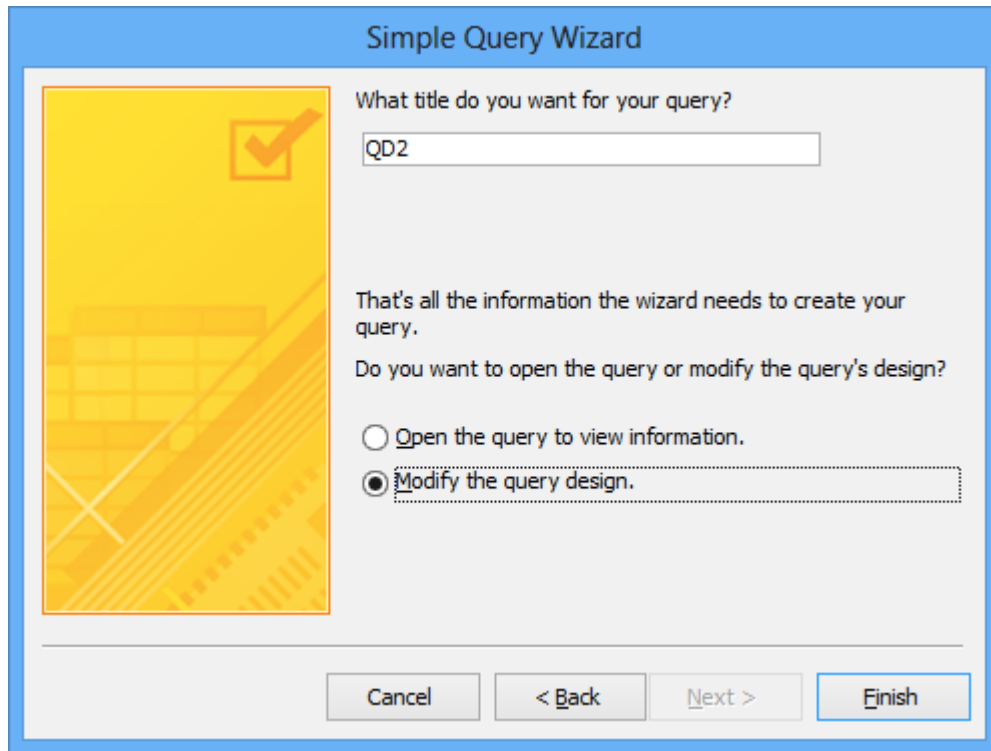
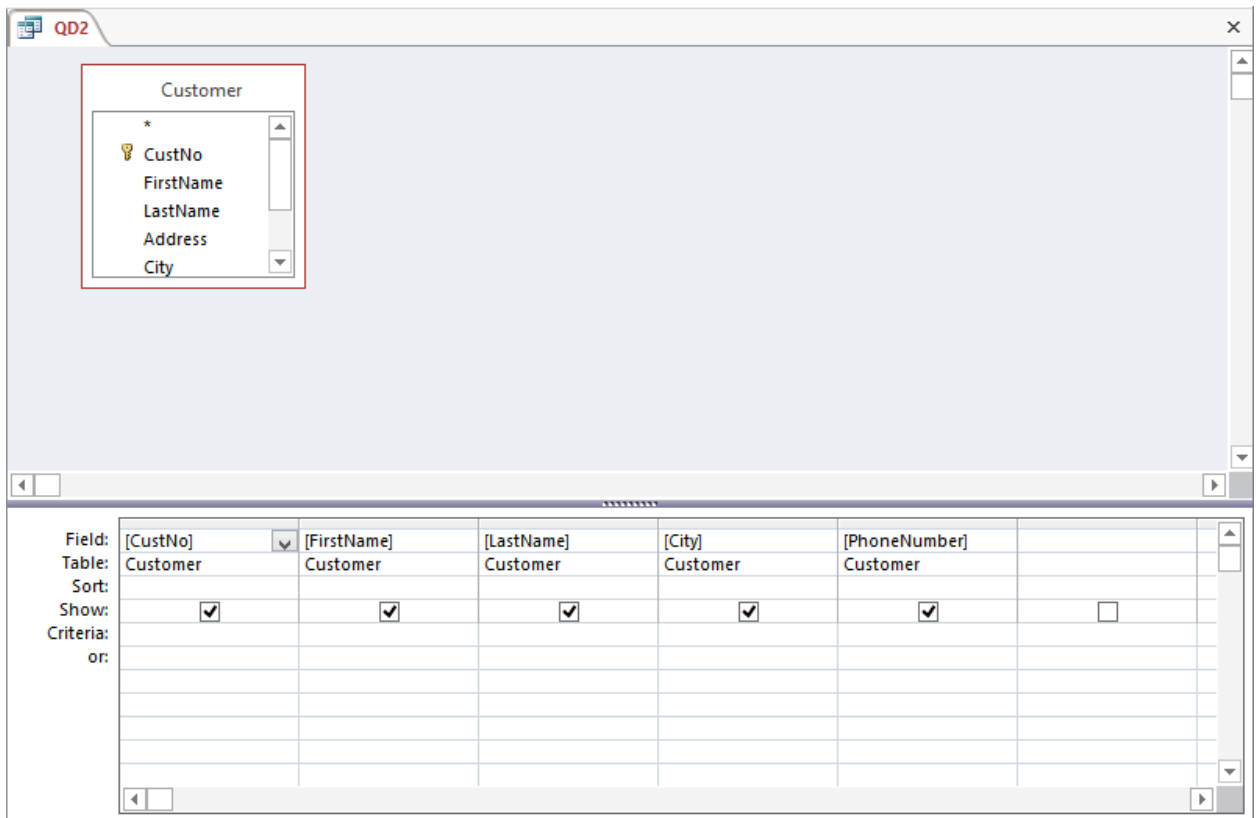

Figure 13: Final Wizard Window
Figure 14: Query Design Window of “QD2”
4. Finish the Query Wizard: In the final wizard window (Figure 13), name the query “QD2”. Below you are asked if you want to open the query or modify its design. Choose the second option, “Modify the query design.”, and click **Finish**. The design view of “QD2” (Figure 14) appears ready for you to modify.
2. **Open the Query Design Window:** Right-click the query in the navigation pane. The design view of “QD3” appears on the screen containing the copied “QD2” query ready for you to change (refer back to Figure 14).